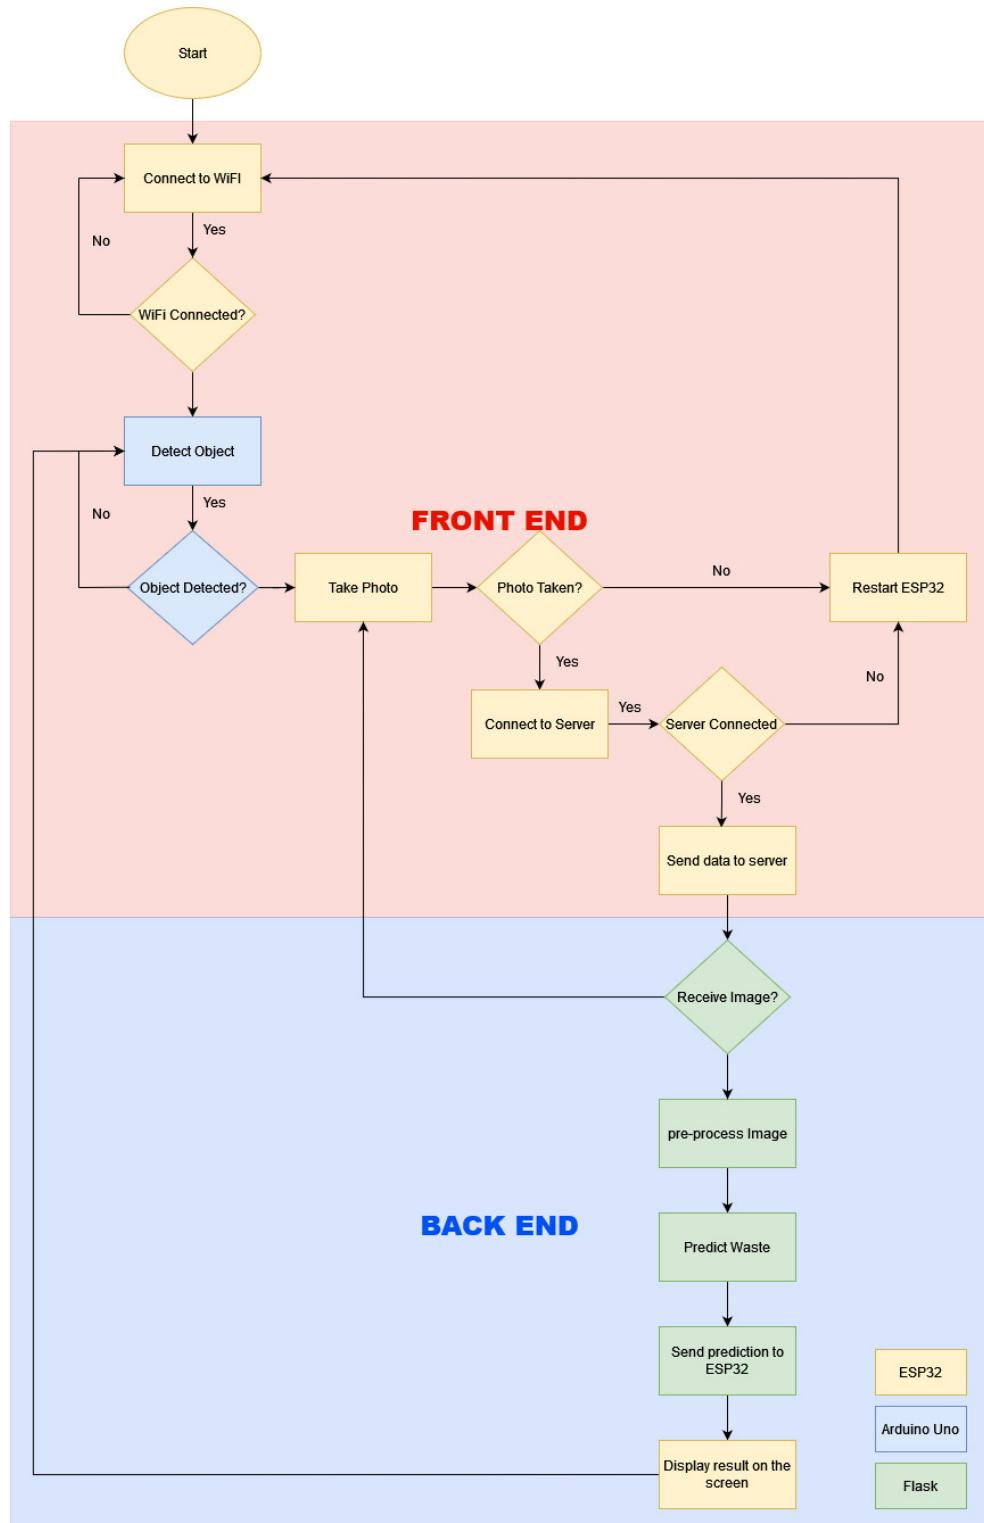

Figure 2: Flow Chart of Data Capture and Processing on Automatic Waste Sorting System
- The system will identify waste types using images captured by an ESP32 camera module, send the image via HTTP POST method to the Flask web server, as shown in the front-end section in Figure 2
- The captured image is processed on a Flask server using **MobileNetV2**, which then controls a motor to sort waste into the appropriate bin (mechanical sorting in progress). See the backend design in Figure 2